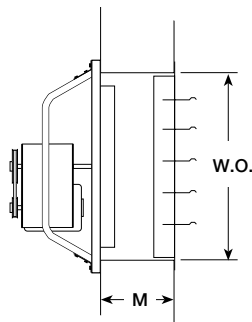

Figure 3 - Direct to Wall Installation
Figure 3 shows the recommended wall opening (W.O.) and the minimum distance (M) suggested between the fan and damper for direct to wall installations.